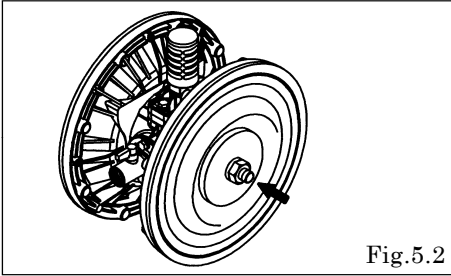

Fig.5.2
- Remove the nut on one side of the center rod. Then, remove the coned disk spring, center disk, diaphragm and center bushing on the same side. [Fig.5.2]